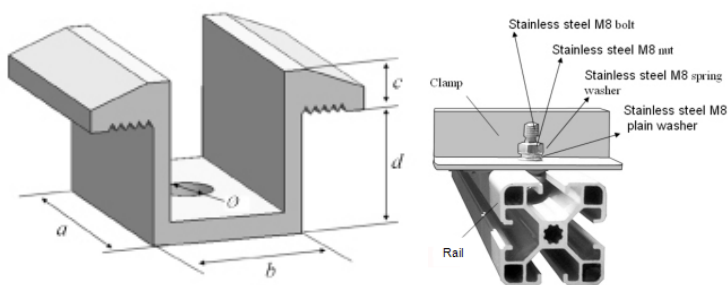
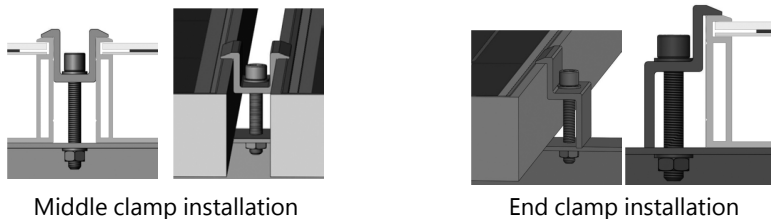

Figure 2: Middle clamps (left) and side clamps (right) of modules SPVxxx-60MMJ / SPVxxx-R60JWMG
Figure 3: End clamp and middle clamp installation of modules SPVxxx-60MMJ / SPVxxx-R60JWMG
The dimensions for the middle clamps are: $a \geq 40$ mm, $b \geq 26$ mm, $c = 8$ mm, $d \geq 28$ mm, and $\varnothing = 9$ mm (See Figure 2).
4. Close -ups of the middle clamps and the side clamps are indicated in *Figure 2* and *Figure 3*.